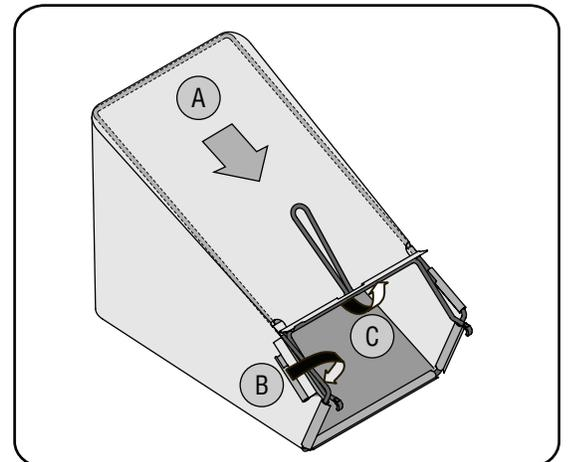

Figure 4
- a. Place bag over frame (black plastic side is the bottom of bag.) Insert the hooks on the frame through the holes in the side plastic channels of the bag. See Figure 4.
- b. Secure bag to frame by working the plastic channels on bag over frame as shown in Figure 4. All of the plastic channels except center top of bag attach from the outside of bag. Center top of bag attaches from the inside of bag.